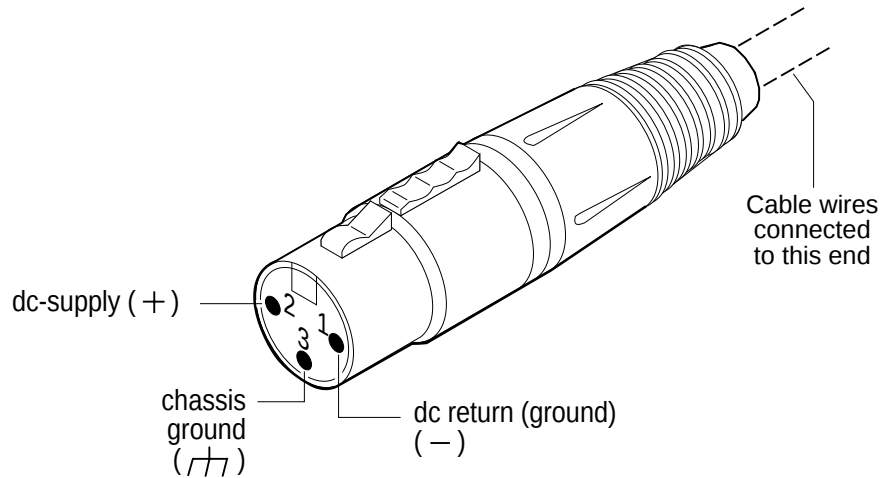

Figure 4-1E. Three-Pin XLR Plug Pinouts (Front View)
- 13 **Note that you will have to assemble your own dc power cable using 18 AWG connecting wires and a three-pin HP E9640A XLR (female) connector plug, shown in Figure 4-1E.**